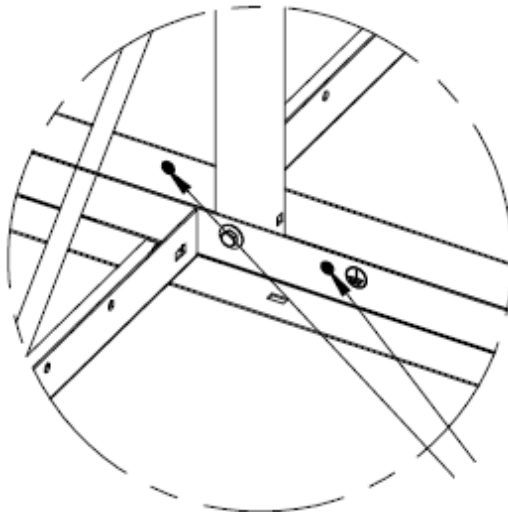

Figure 33: Tearing off the grounding stickers
6. Tear off the two grounding hole stickers on either side of the mast pole, as shown in Figure 33.